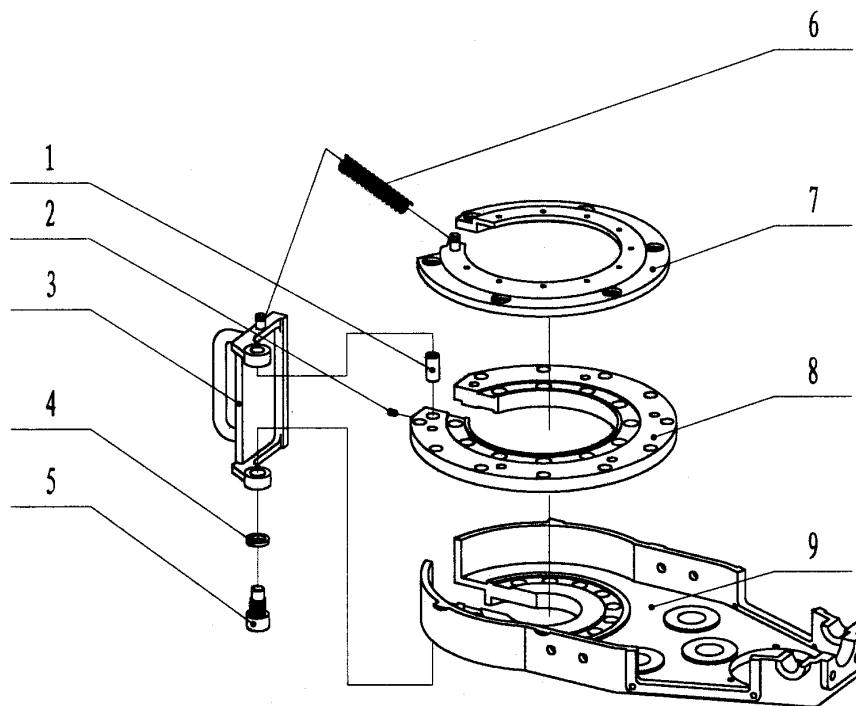

Fig 5
- 8. 2. 3 Safety door and its fittings (Fig 5, Table 5)
9.2.3 Safety door and its fittings (fig.5, Table 5)